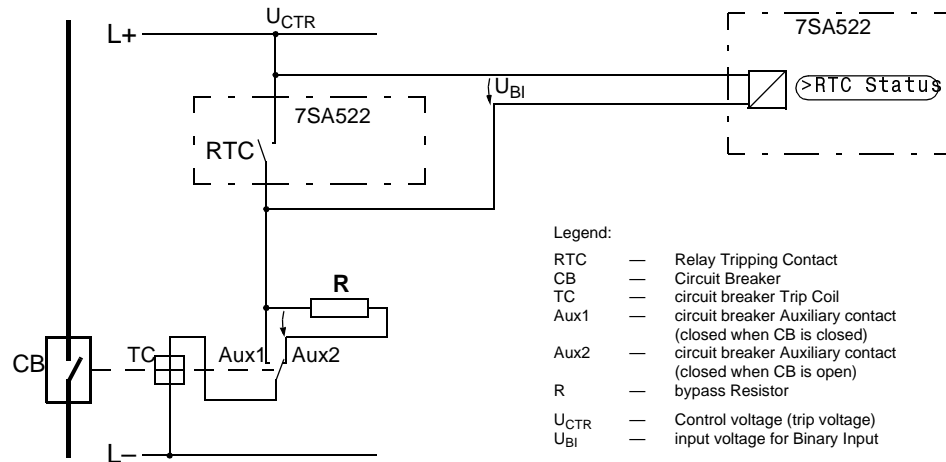

Figure 8-6 Trip circuit supervision with one binary input
If *one* binary input is used, a bypass resistor R must be employed (refer to Figure 8-6). This resistor R is connected in series with the second circuit breaker auxiliary contact (Aux2), to also allow the detection of a trip circuit failure when the circuit breaker auxiliary contact 1 (Aux1) is open, and the command relay contact has reset. The value of this resistor must be such that in the circuit breaker open condition (therefore Aux1 is open and Aux2 is closed) the circuit breaker trip coil (TC) is no longer picked up and binary input (BI1) is still picked up if the command relay contact is open.